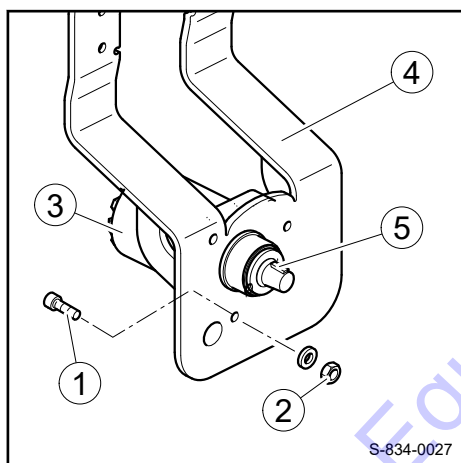

Fig. 261
6. Disassemble fastening screws 1 ↪ Fig. 261, washers and nuts (2).
7. Remove the travel motor (3) from the support leg (4).
8. Disassemble the feather key (5).